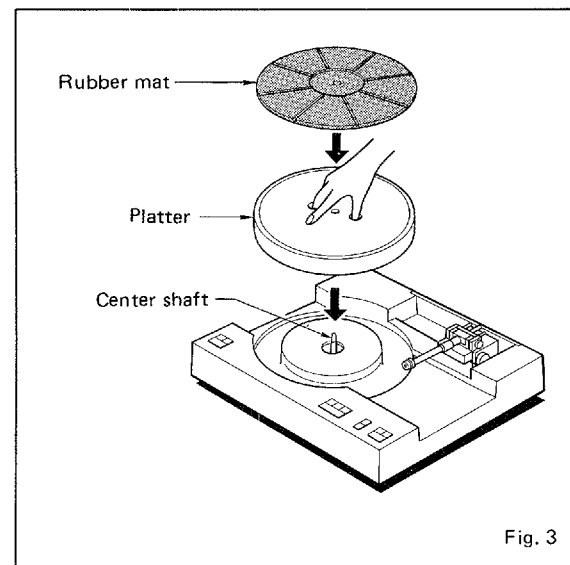

Fig. 3
1. Hold the platter as illustrated in Fig. 3 and fit it gently onto the center shaft.